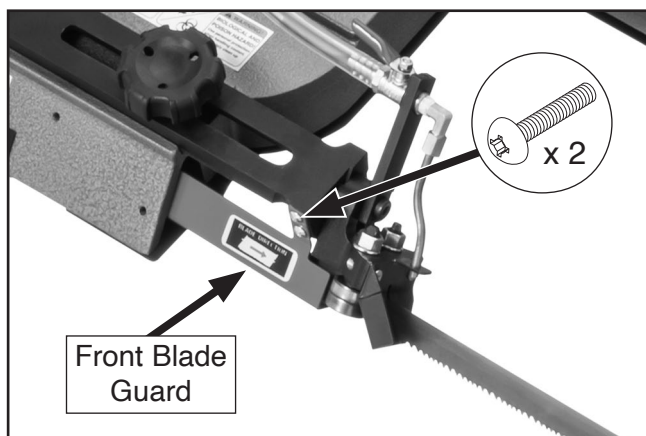

Figure 38. Front blade guard and screws.
5. Remove (2) Phillips head screws (see **Figure 38**) to remove front blade guard.